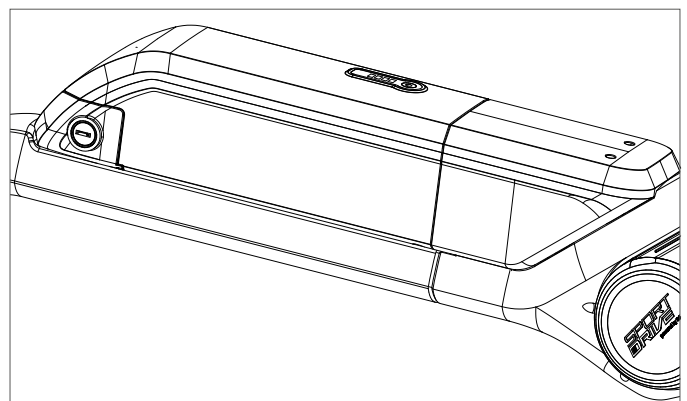

Figure 4.25 Lock assembly - complete
6. Check if the battery is secure assembled (Fig. 4.25).